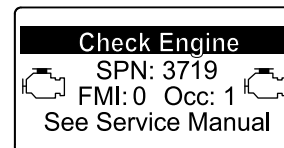

Figure 57
- If a recovery regeneration is needed, the InfoCenter displays engine warning SPN 3719, FMI 16 (Figure 57) and the engine computer derates engine power to 85%.